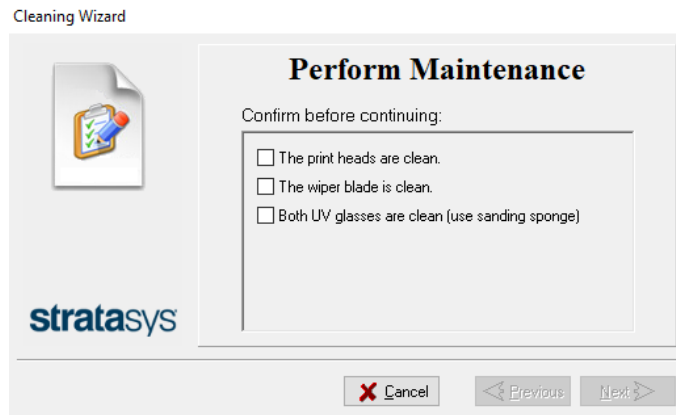

Figure 4-69 Wizard screen during cleaning tasks
13. Select the confirmation check boxes in the wizard screen (see Figure 4-69) and click **Next**.